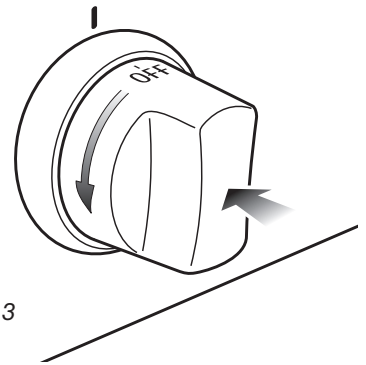

Fig. 3.3
2) Press the oven control knob right down and, keeping it pressed, turn counter-clockwise (fig. 3.3) to max position **8** ★.